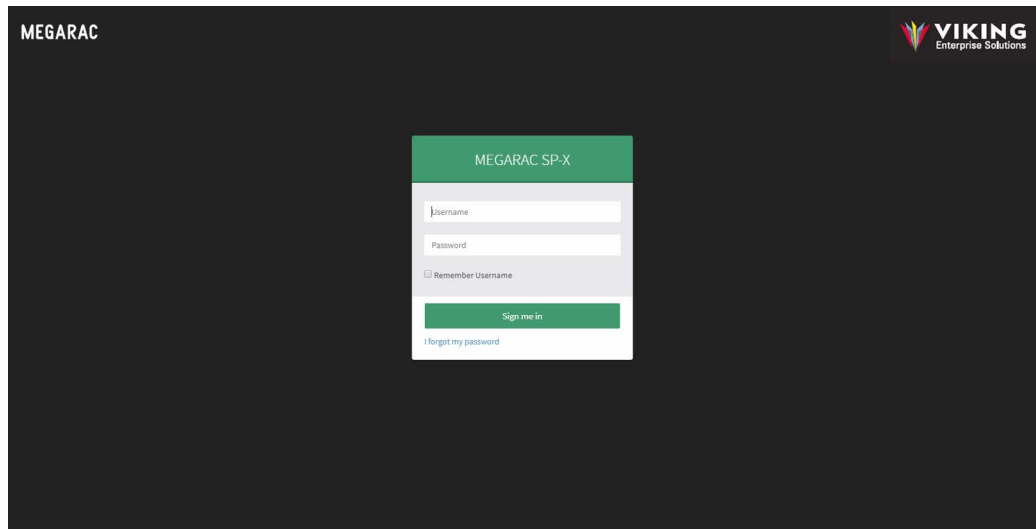

Figure 7.9 MegaRAC® BMC WebUI login
2. The BMC WebUI login screen displays as shown in Figure 7.9 on page 87.